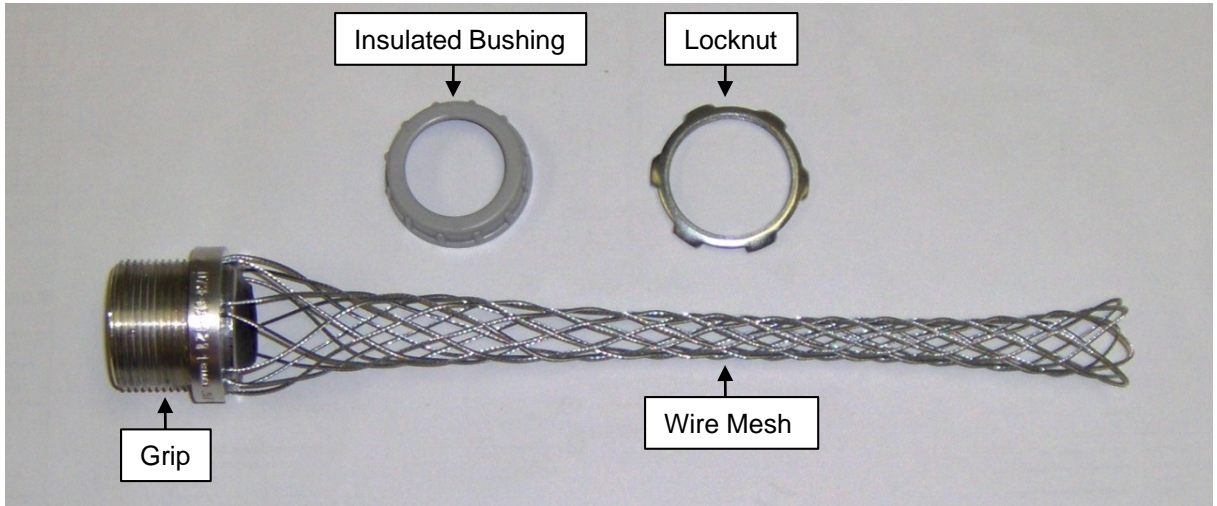

Figure 1
5.1 **See Fig. 1** for a typical Strain Relief Kellems Grip layout.